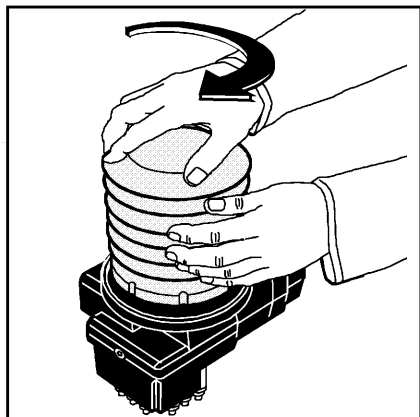

Fig. B9
5. Screw the cartridge clockwise onto the pump (fig. B9). The foil will be removed automatically.